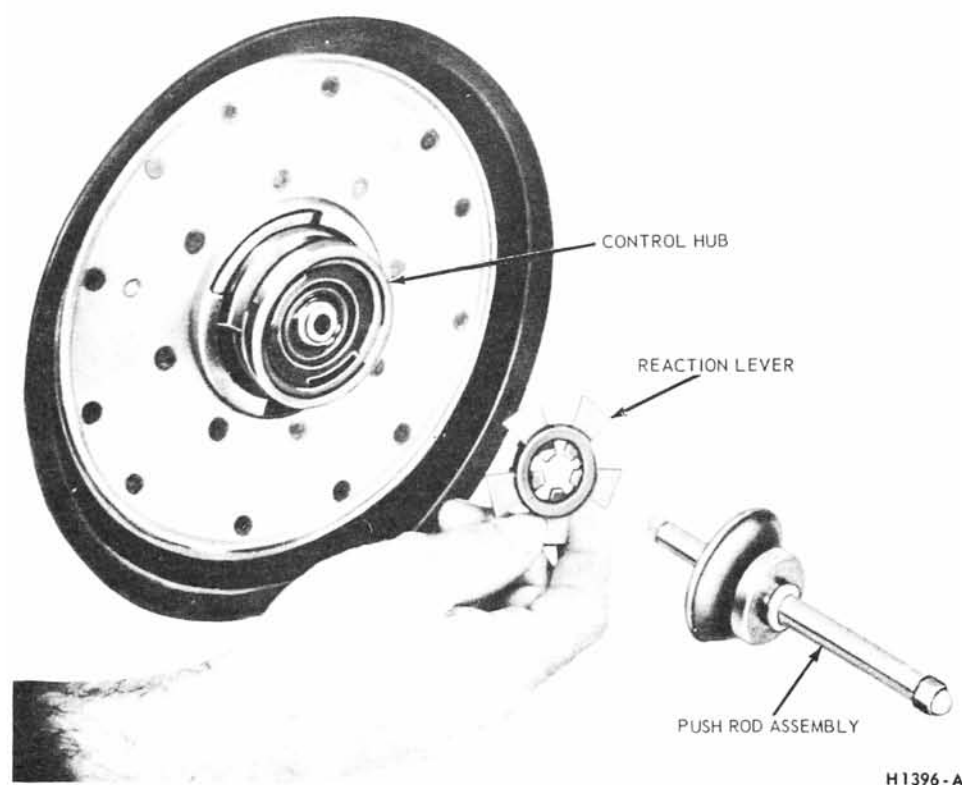

FIG. 24—Push Rod Assembly, Reaction Lever and Control Hub
3. Remove the push rod assembly and the reaction lever assembly from the control hub (Fig. 24).
4. Remove the two plastic guides from the push rod. Remove the reaction cone retainer and the cone from the push rod (Fig. 24).
5. Install the lever assembly in the control hub with the rubber protrusions toward the hub (Fig. 24).